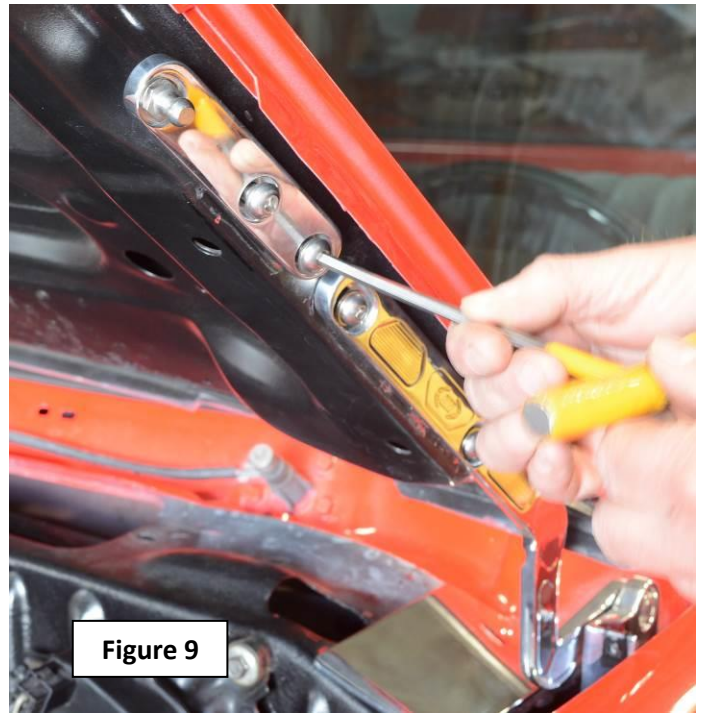

Figure 9
18. Apply anti-seize to two 5/16-18 x 3/4" button head bolts and use with two 5/16" AN washers to install the Hood Strut Mount Bracket to the hood (Figure 9). Select the correct bracket for each side of the hood so that the larger aluminum area is installed facing "UP" towards the top of the hood as shown.